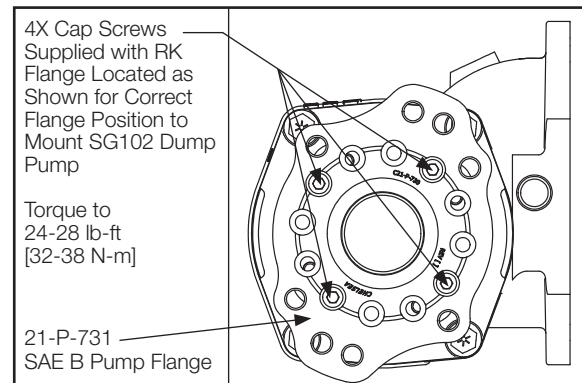

Figure 10
2. For proper pump orientation with pump support brackets, please note the angle of RK output pump flange (**Fig. 10**).